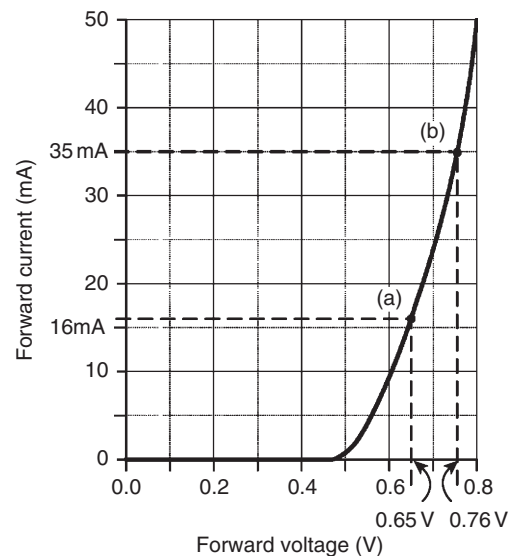

Figure 11.12
The I/V characteristic is shown in Fig. 11.12. Since the device begins to conduct when a potential of approximately 0.6 V is applied to it we can infer that **the semiconductor material is silicon** rather than germanium.
Problem 6. For the characteristic of Fig. 11.12, determine for the device (a) the forward current when the forward voltage is 0.65 V and (b) the forward voltage when the forward current is 35 mA.
- (a) From Fig. 11.12, when the forward voltage is 0.65 V, **the forward current = 16 mA**